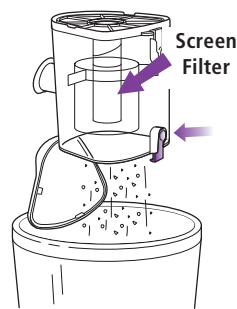

Fig. 21
- 3 If needed, turn the dust cup upside down over the trash receptacle and press the top door release button. (Fig. 21) Tap gently to remove contents. Use a dry cloth or paper towel to remove debris stuck to the screen filter inside the dust cup. Press the door shut again until it clicks.